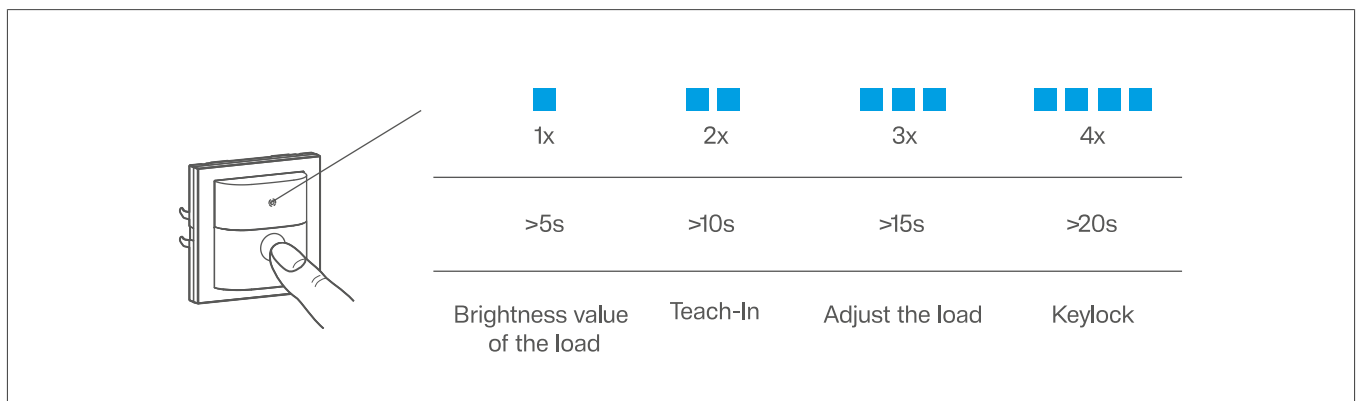

Fig. 4: Selection of special functions and status LED
- Keeping the button pressed activates special functions. The selection of special functions is supported by the status LED (see Fig. 4)